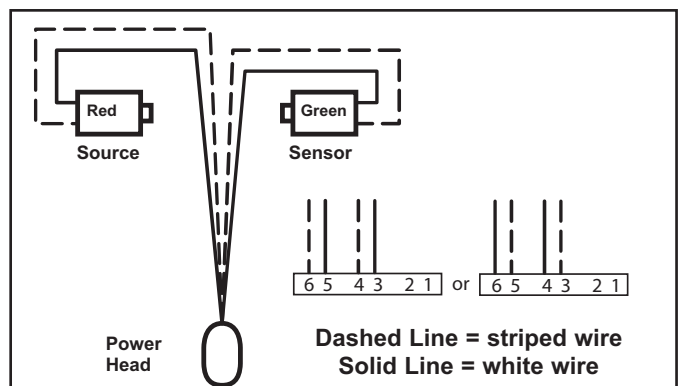

FIG. 4-5a Source and sensor wiring methods.
- Route wire from Safe-T-Beam® sensors to power head using method shown in (**Fig. 4-5a**).